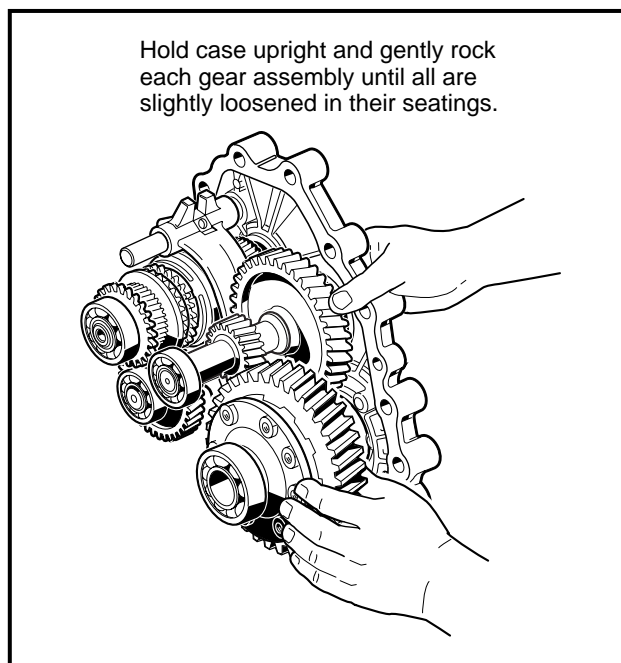

Figure 16-36 Loosen Gears
7. Turn the case section containing the gearing on edge as shown (**Figure 16-36, Page 16-15**). While holding it in this position, gently rock all the gear assemblies to slightly loosen them in their seating.